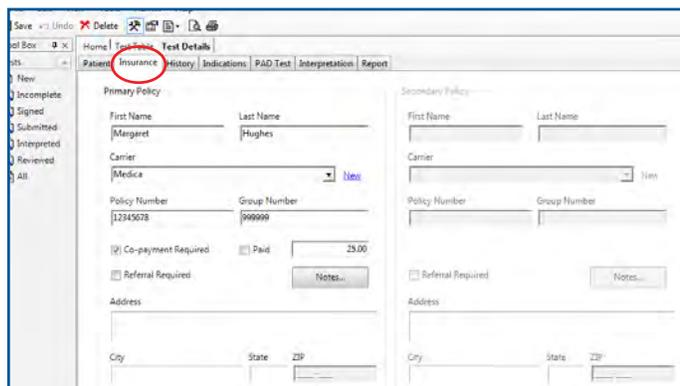

FIGURE 1.6 - Insurance Tab
5. Enter the patient’s insurance information (Figure 1.6, next page).